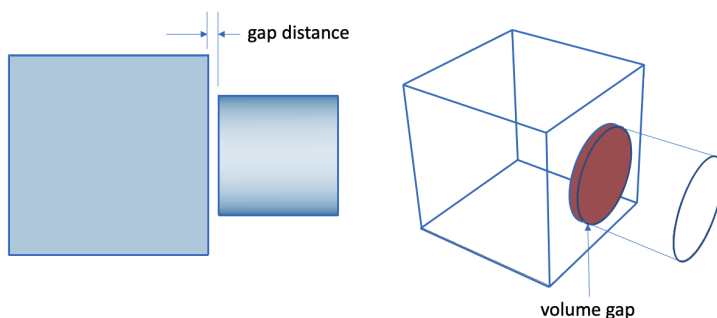

Figure 13. Volume Gap Example
- **Volume Gaps** - Lists volume pairs that are separated by a distance smaller than the **Volume Gap** tolerance specified in the Options panel, but are not in contact or overlapping. Gaps can result in parts that are not correctly merged and will not share nodes between volumes when meshed. Expanding a volume pair in the list will display individual surface pairs where gaps exist between the volumes. Figure 13 illustrates a gap between two volumes. Gaps can be visualized using the **Draw Volume Gap** context menu, also shown in Figure 13, where the surfaces that are within the gap tolerance are displayed in red. The tweak surface replace command can sometimes be used to correct overlaps.